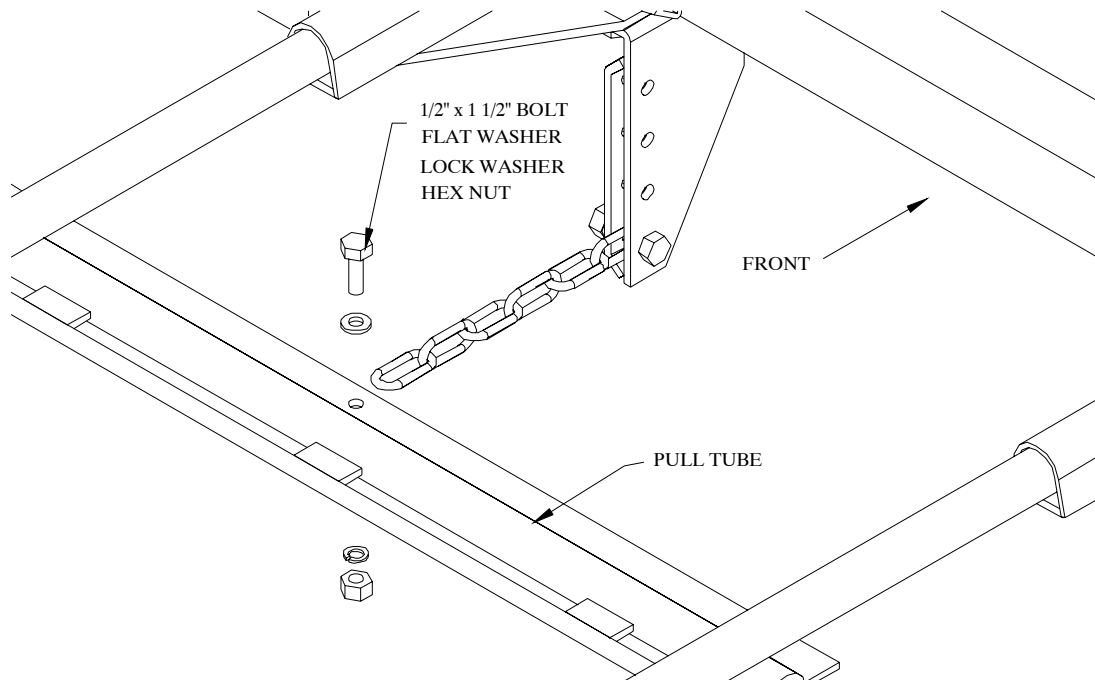

Figure 15
1. Look at the layout diagrams on pages 33-36 and determine where each pull tube goes and bolt them to the pull chains as shown in figure 15, using a 1/2" x 1 1/2" bolt, two flat washers, one lock washer and hex nut for each pull chain.